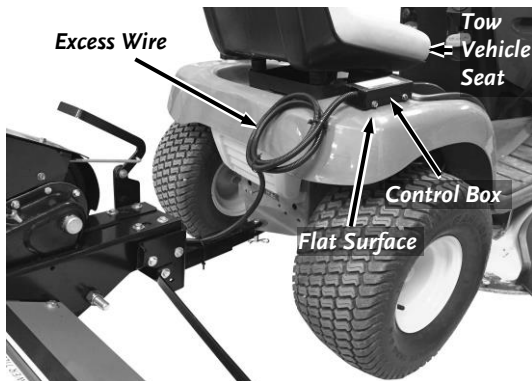

Figure 11
1. Position the Control Box on your Tow Vehicle within reach of the seated Tow Vehicle driver (**Figure 11**).